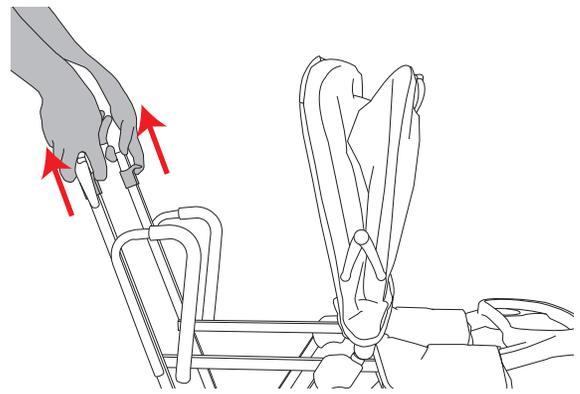

Figure 27
- Pull upward on the trigger mechanisms on both sides of the stroller. See Figure 27.